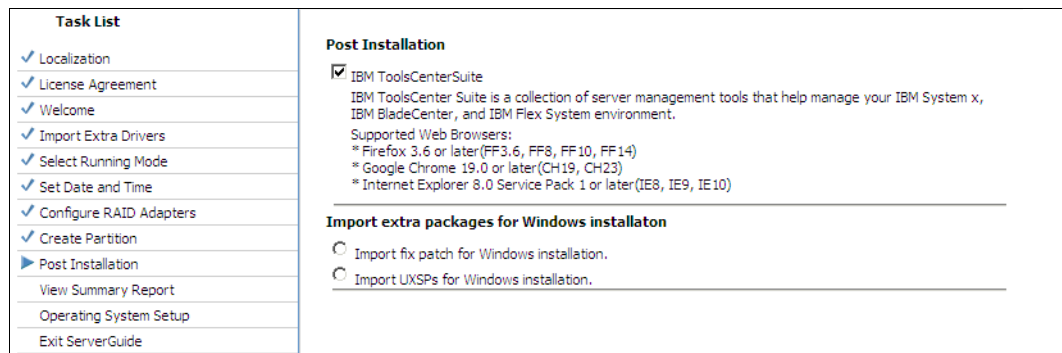

Figure 6-21 Postinstallation options
14.When the process completes, click **Next**. You can select postinstallation options, as shown in Figure 6-21.